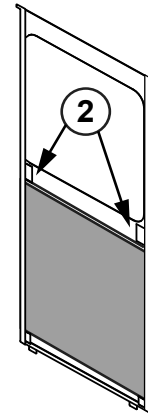

Figure 25.5
3. Stack non-combustible material tiles in tile frame as shown in **Figure 25.2** by sliding first tile in, bend tabs on back side **Figure 25.5**, then slide last tile in position so that it rests on tabs.